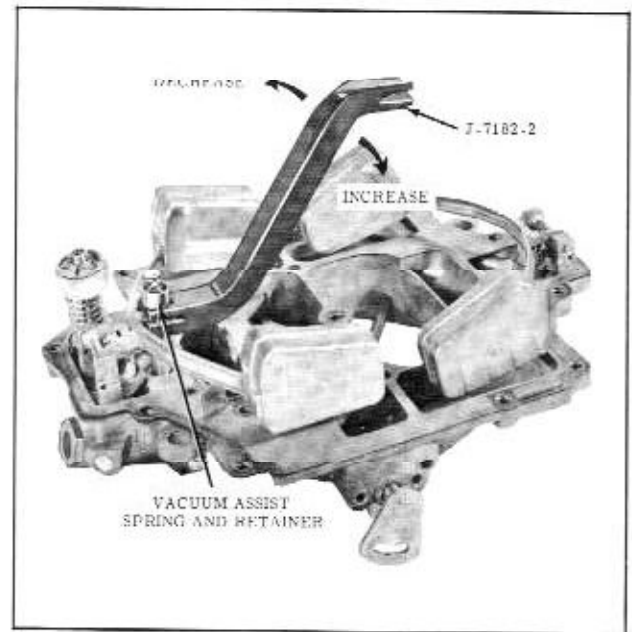

Fig. 8-110 Adjusting Vacuum Assist Spring
3. If an adjustment is necessary, bend the tang under the vacuum assist spring and retainer as indicated in Fig. 8-110.